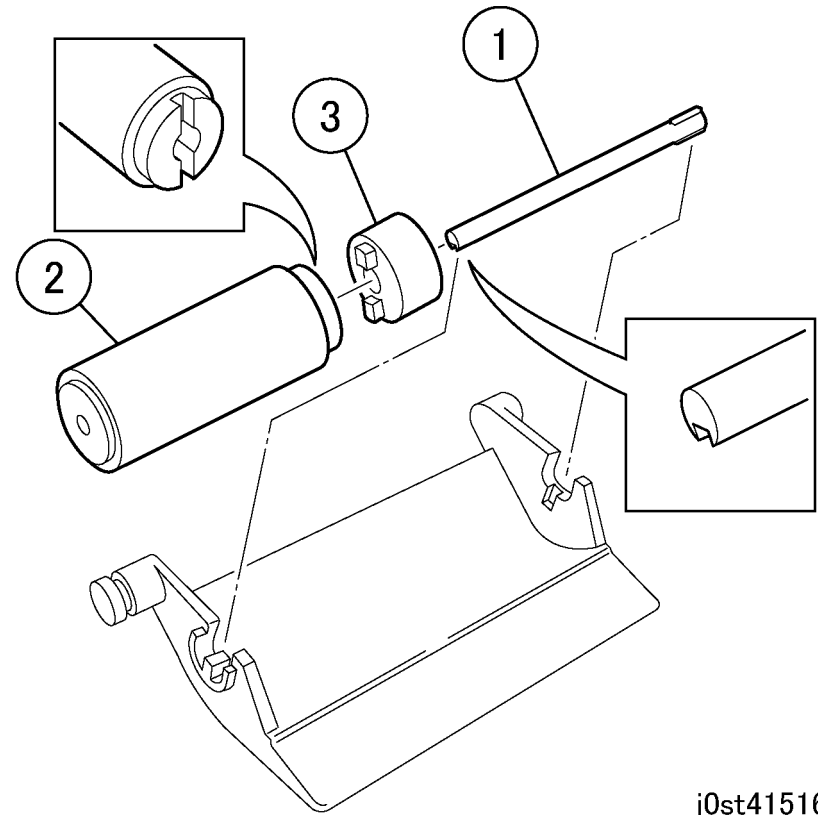

Figure 3 Removing the Retard Roll
4. Remove the Retard Roll. (Figure 3)